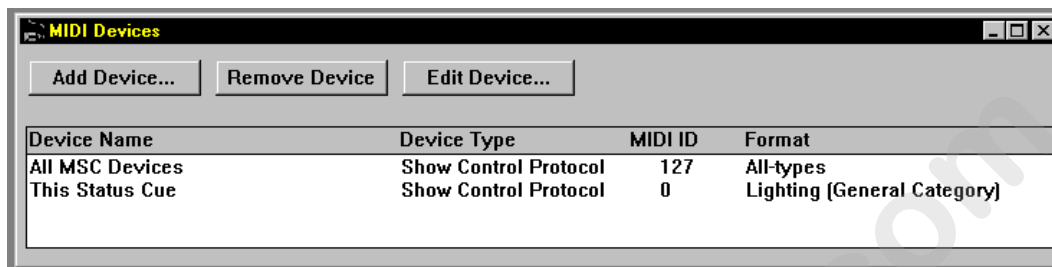

Figure 3.2. MIDI Devices Default Window
1. Select **MIDI Devices...** from the **Configure** drop down menu. This will bring up the **MIDI Devices** dialogue box. The **MIDI Devices** dialogue box indicates the installed MIDI devices. Refer to Figure 3.2 for the default window.